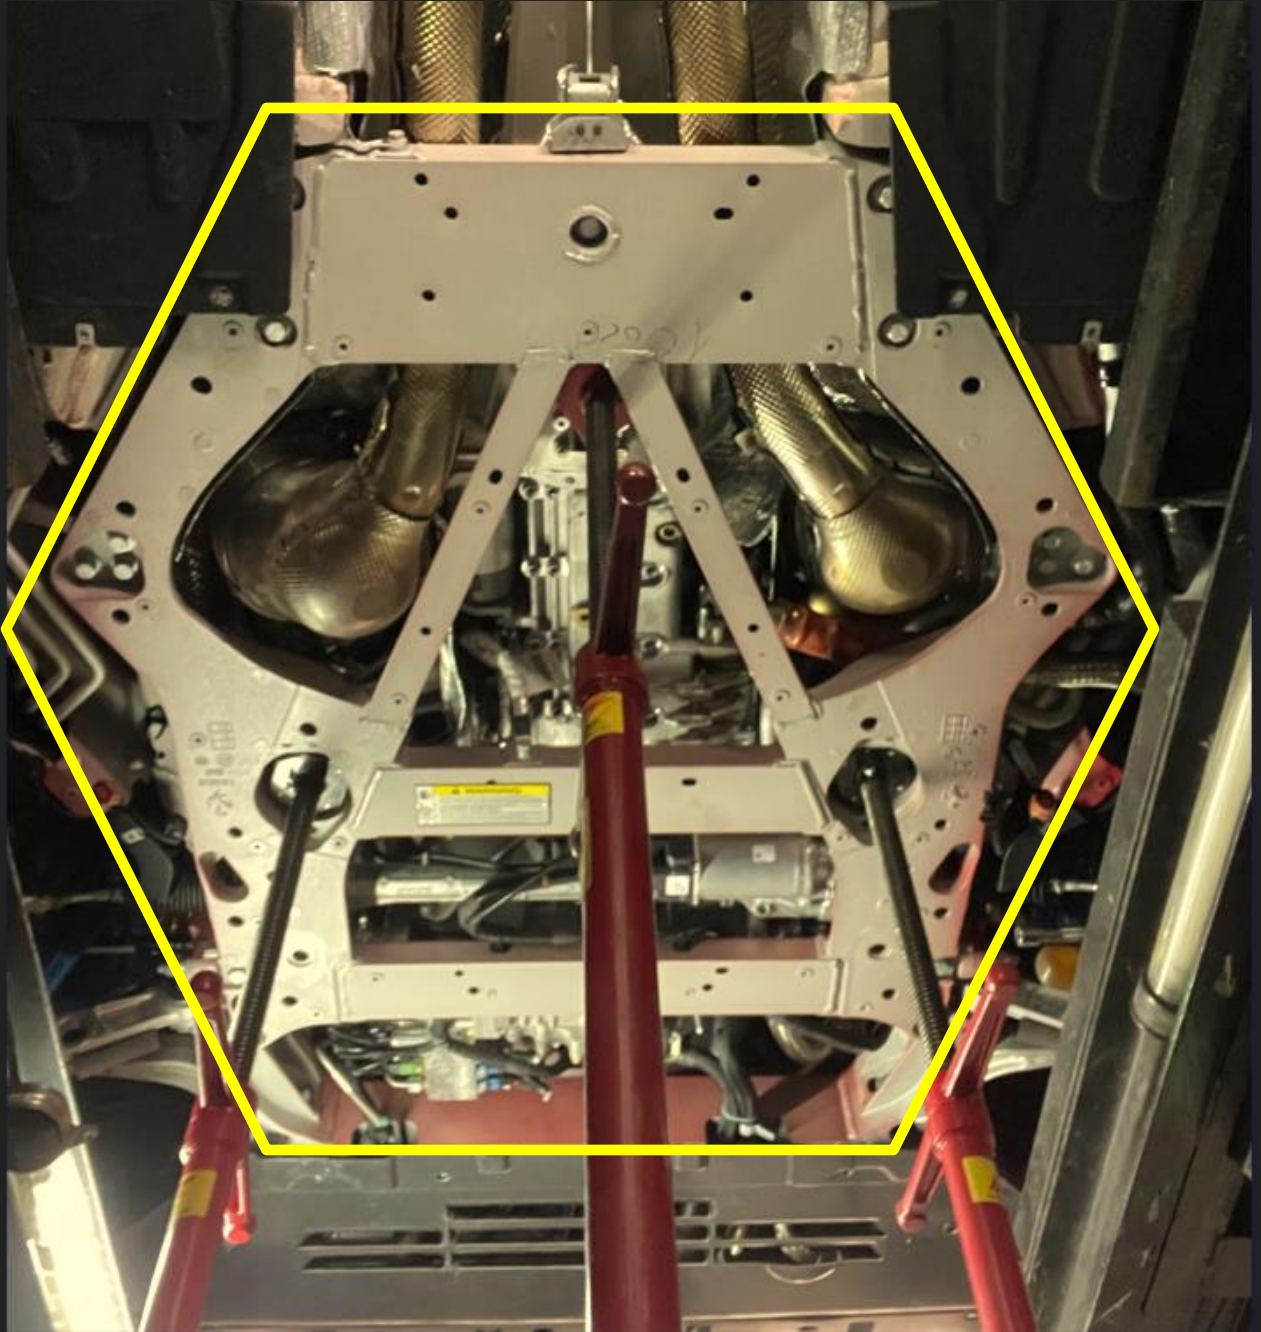

Figure 38
6. Reinstall the underbody frame and tighten the bolts. Once secured, remove the three support bars (Figure 38).